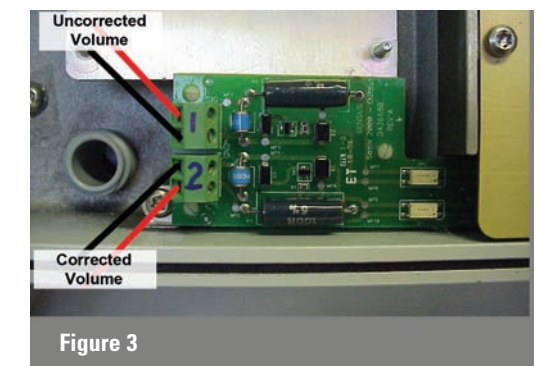

Figure 3
1. Connect the red and black Rotary Mini Max Prove Cable to the Corrected Volume terminal of the Sonix 2000 pulse board as shown (Figure 3)